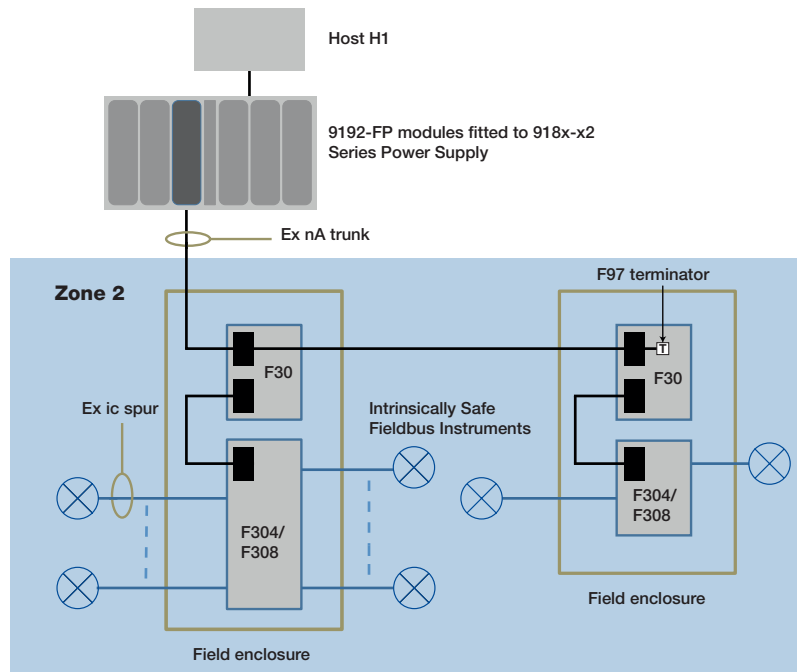

Figure 4.7 – Segment extension using 2 x F30 adaptors
- Use the available second set of terminals on the trunk connector in the first enclosure to onward connect the trunk wiring to the second enclosure- as shown in Figure 4.7.